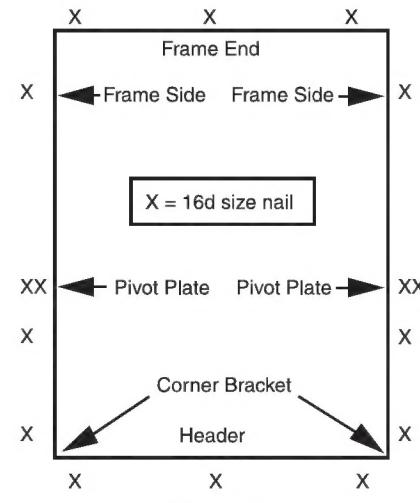

Figure 7
- Be certain to install nails or  $\frac{1}{4}$ " diameter lag screws in the holes provided in the hardware pivot plates and in each corner next to the corner bracket as shown in Figure 7. Drill pilot holes to keep ladder frame from splitting.
- Once the folding aluminum attic ladder is positioned as desired, final nailing should be done through the folding aluminum attic ladder frame (see Figure 7). Always drill pilot holes to keep from splitting the frame boards.